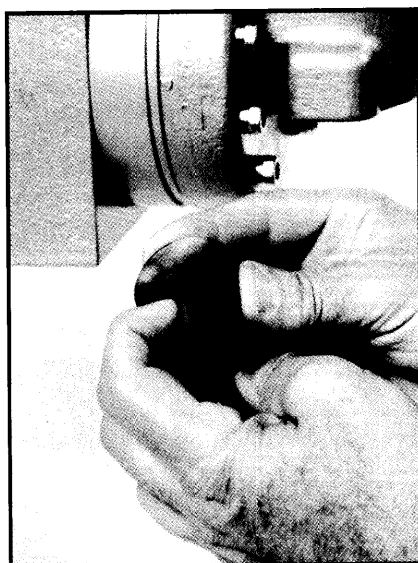

FIGURE 4
3. Fold a point on the edge of the HYDRATUBE flange upward (Figure 4). Push the edge down the throat of the tube. Fold the sides of the flange inward (Figure 5) to form a compact 45° "nose" and wrap tightly with a rubber band (Figure 6).